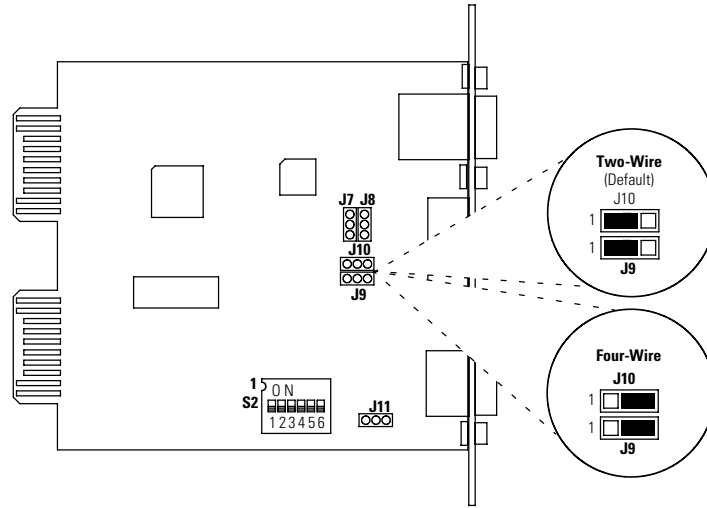

Figure 4. Modbus Card Jumpers
3. Change the J9 and J10 jumpers to the desired setting as shown in Figure 4.